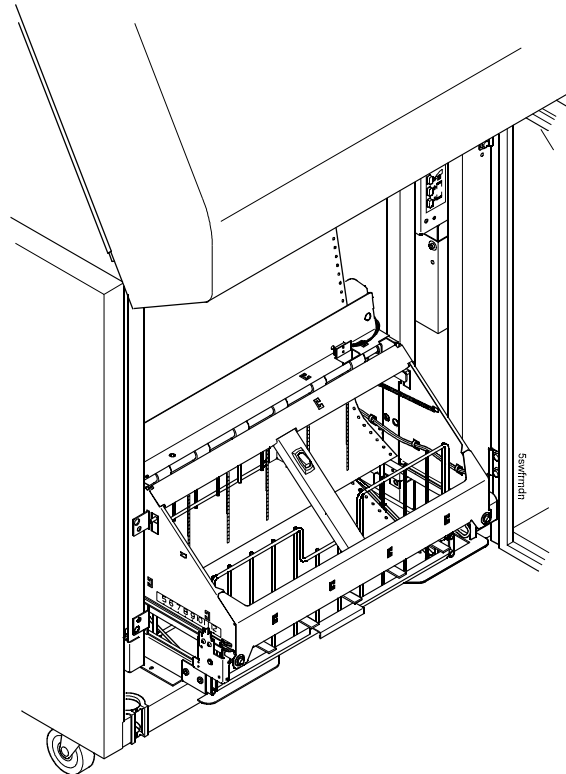

Figure 61. This figure shows the power stacker in the print position.
3. Press the **ON LINE** key on the front or rear operator panel to put the printer in the online state. The stacker elevator will descend to its lowest position. (Figure 61.)